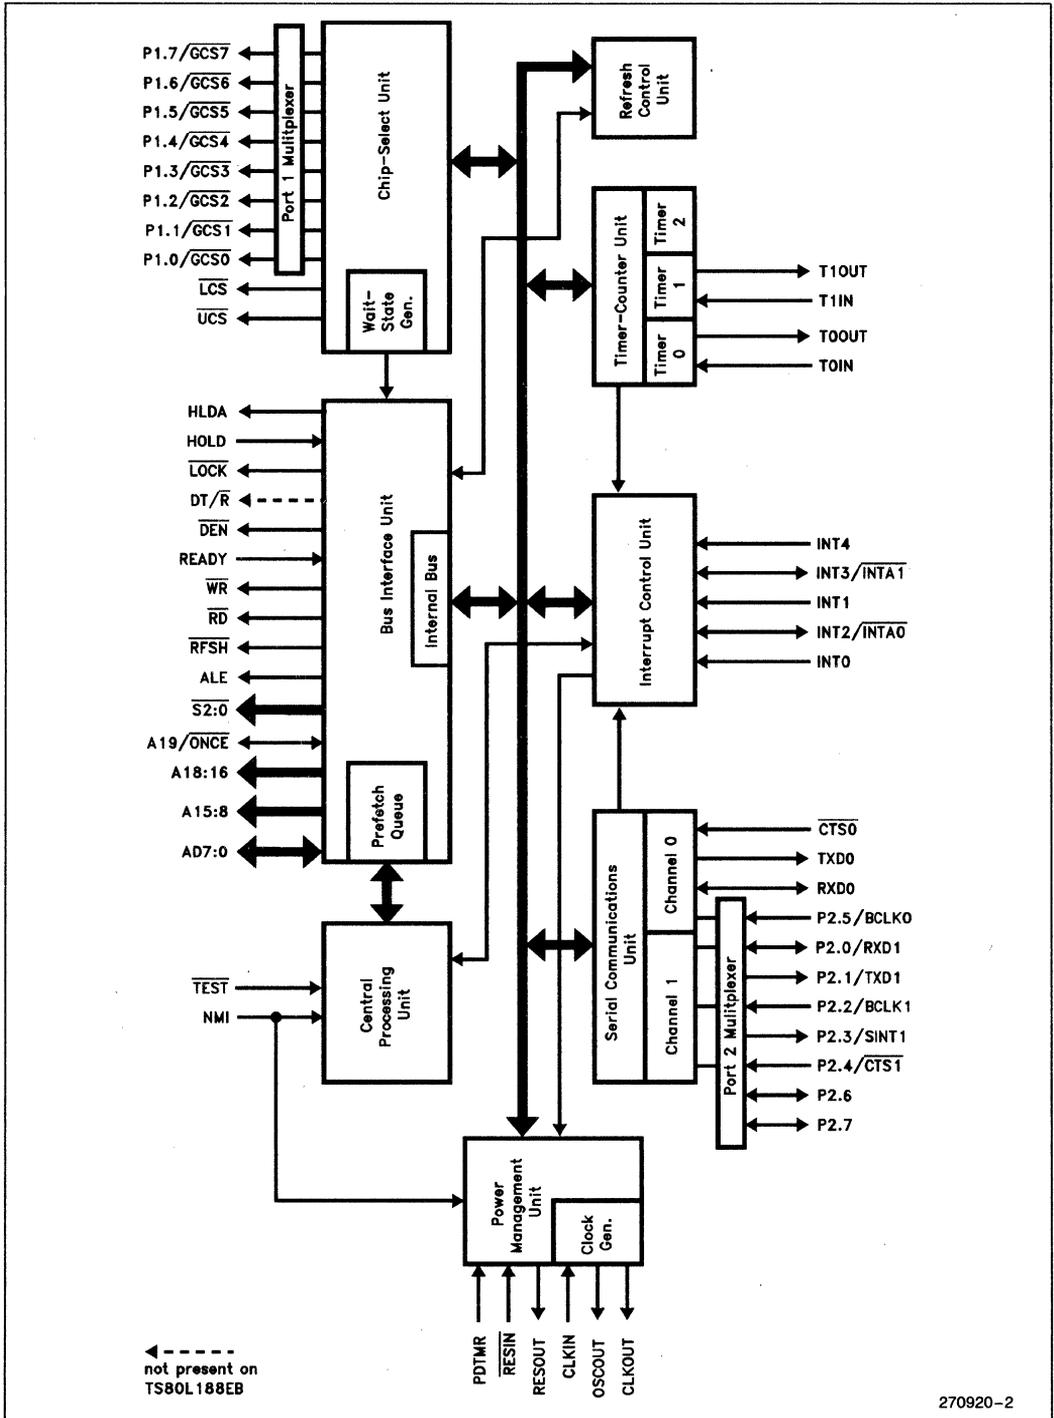

Figure 1. 80L188EB Block Diagram
Figure 1 shows a block diagram of the 80L188EB. The Execution Unit (EU) is an enhanced 8088 CPU core that includes: dedicated hardware to speed up effective address calculations, enhance execution speed for multiple-bit shift and rotate instructions and for multiply and divide instructions, string move instructions that operate at full bus bandwidth, ten new instructions and full static operation. The Bus Interface Unit (BIU) is the same as that found on the original 188 family products, except the queue-status mode has been deleted and buffer interface control has been changed to ease system design timings. An independent internal bus is used to allow communication between the BIU and internal peripherals.